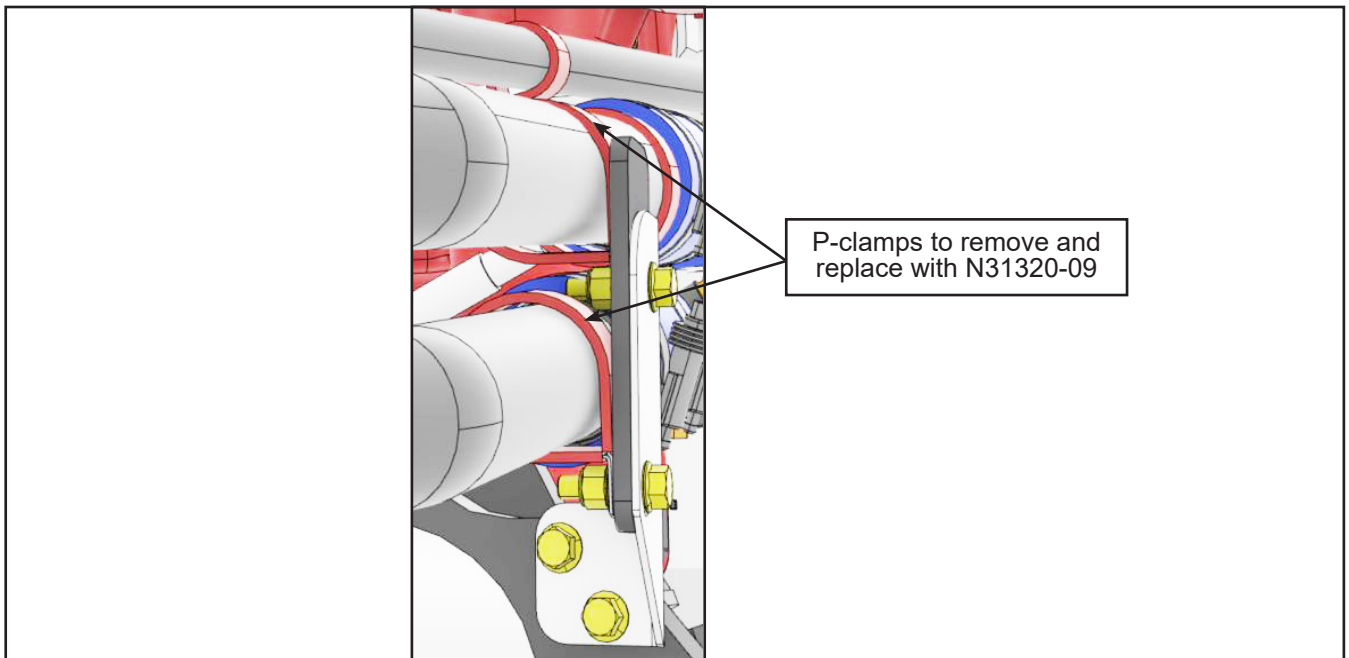

Figure 3 - P-clamps to Replace
- 1.6. Remove the two P-clamps, keep the spacer, the screws and the nuts. Discard the P-clamps (Figure 3).